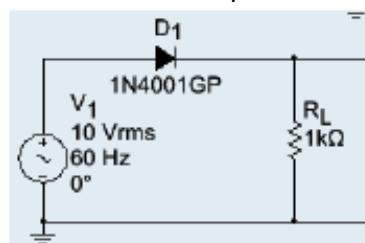

Figure-37
Figure-37 shows a half-wave rectifier that you can build on the lab bench or on a computer screen with Multisim. An oscilloscope is across the $1 \text{ k}\Omega$. Set the oscilloscope's vertical input coupling switch or setting to dc. This will show us the half-wave load voltage. Also, a multimeter is across the $1 \text{ k}\Omega$ to read the dc load voltage. Calculate the theoretical values of peak load voltage and the dc load voltage. Then, compare these values to the readings on the oscilloscope and the multimeter.
- Figure-37 shows an ac source of 10 V and 60 Hz. Schematic diagrams usually show ac source voltages as effective or rms values. Recall that the effective value is the value of a dc voltage that produces the same heating effect as the ac voltage.
- Therefore, the peak source voltage in Figure-37 is:
Using Figure-37, change the ac source voltage to **15 V**. Calculate the second approximation dc load voltage Vdc.